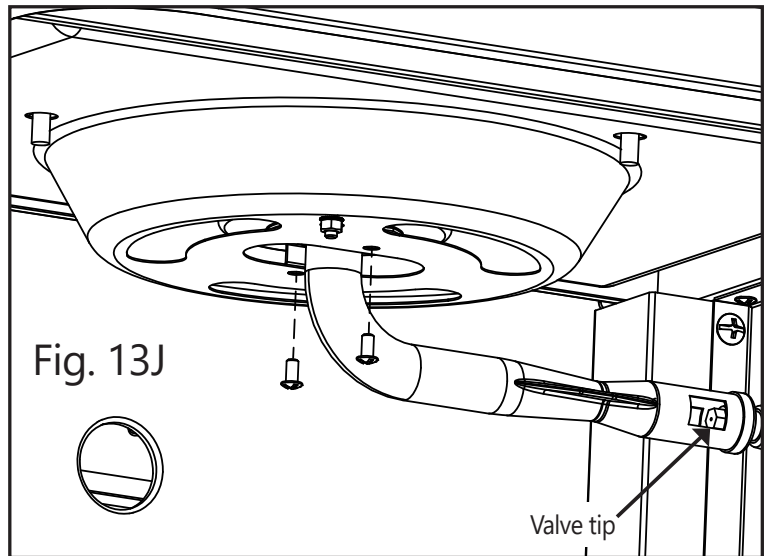

Fig. 13J
Insert side burner onto side burner valve. You **MUST** make sure that tip of the valve is completely **INSIDE** end opening of burner tube. Attach side burner to side burner shelf assembly using (2) bolts removed during Step 13B as shown. **(Fig. 13J)**